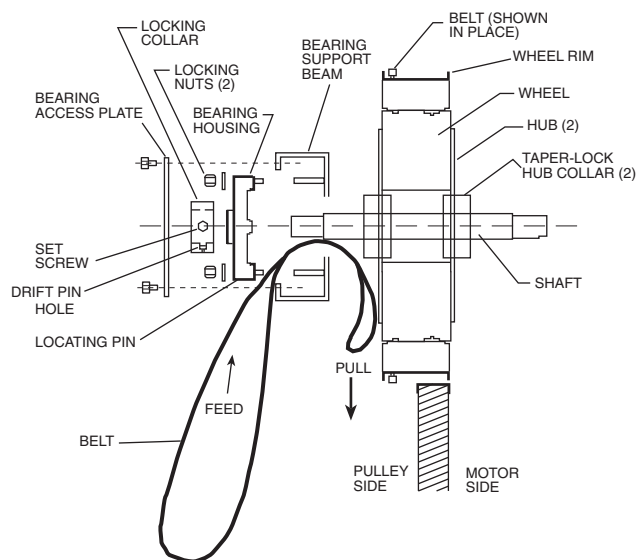

Fig. 196 — Solid Belt Replacement
1. Obtain access to the pulley side bearing access plate. Bearing access plates are not provided on 25 to 36-in. cassettes. Remove the two bearing access plate retaining screws and the access plate. See Fig. 196.
5. Form a small loop of belt and pass it through the hole in the bearing support beam. Grasp the belt at the wheel hub and pull the entire belt down. Loop the trailing end of the belt over the shaft (Fig. 196 shows the solid belt partially through the opening).